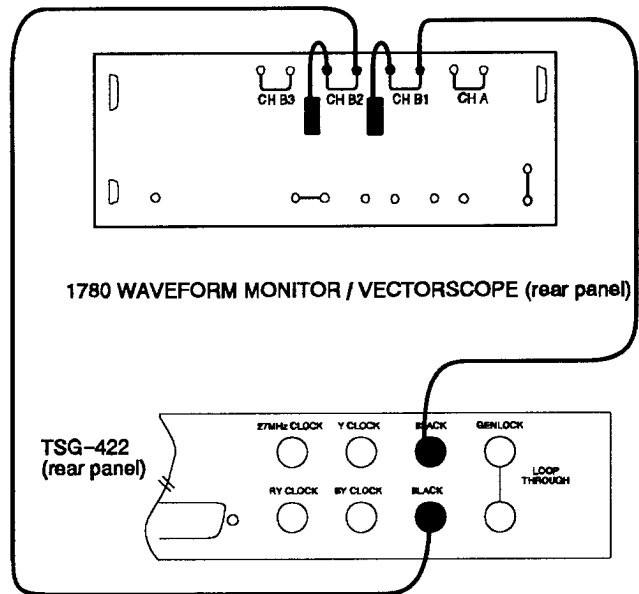

Fig. 5-5. Setup to check the Black Burst Output.
- a. Connect the test equipment as shown in Fig. 5-5.
- a. Connect the equipment as shown in Fig. 5-5.